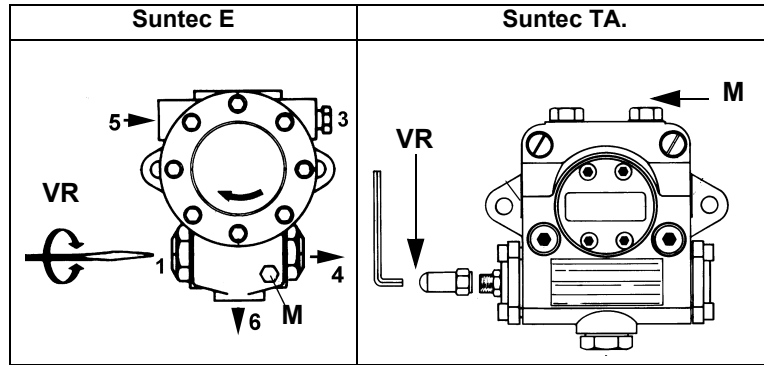

Fig. 22
- 3 bleed the air from the **M** pressure gauge port (Fig. 22) by loosening the cap without removing it, then release the contactor.
- 5 the nozzle supply pressure is already factory-set and must not be changed. Only if necessary, adjust the supply pressure as follows (see related paragraph); insert a pressure gauge into the port showed on Fig. 55 and act on on the pump adjusting screw **VR** (see Fig. 22) as to get the nozzle pressure at 21 bar or 25bar (according to the nozzle model provided: Monarch or Fluidics nozzles - see page 35).